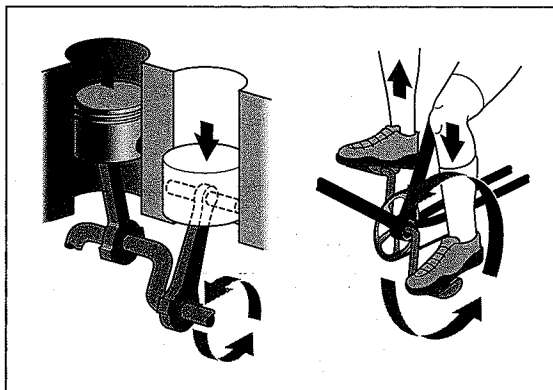

Figure 4-4:
9. Attached to the bottom of the piston is a connecting rod, which is attached to a crankshaft, which leads, eventually, to the drive wheels of your car. As the piston and the connecting rod go up and down, they cause the crankshaft to turn. As shown in Figure 4-4, this is pretty much the same motion you use to pedal a bike: Your knee goes up and down while your foot pedals 'round and 'round.